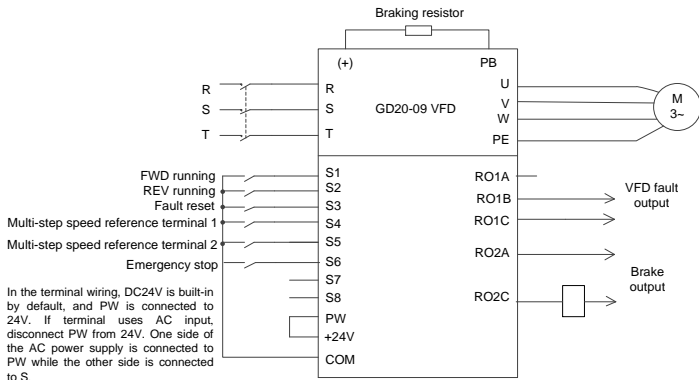

Figure 4-1 Wiring for open-loop vector control
**Note:** If the wiring is performed according to Figure 4-1, most VFD parameters need no adjustment. If the onsite function terminals are inconsistent with the terminals shown in the figure, manually adjust the input and output terminal functions according to the actual wiring after selecting the open-loop vector controlled lifting application macro.